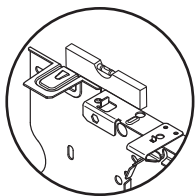

Fig. 21
6. Using a spirit level ensure that the bracket is level before finally tightening the screws (Fig. 21).